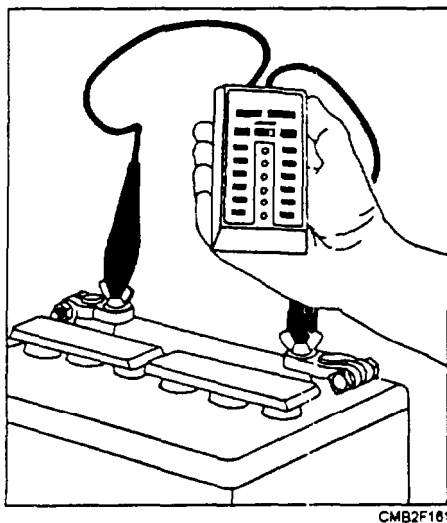

Figure 2-8.—Battery voltage test performed with a battery tester.
**BATTERY VOLTAGE TEST.**—The battery voltage test is done by measuring total battery voltage with an accurate voltmeter or a special battery tester (fig. 2-8). This test determines the general state of charge and battery condition quickly.